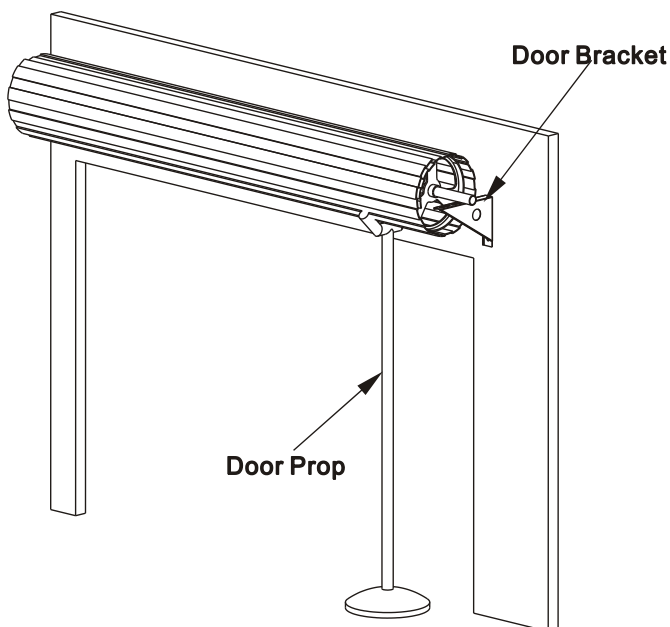

Fig 7
- 2.1 Check that the door U-bolt is securely tightened on the opposite end of the door to which the Drive Unit will be fitted (Fig.7)